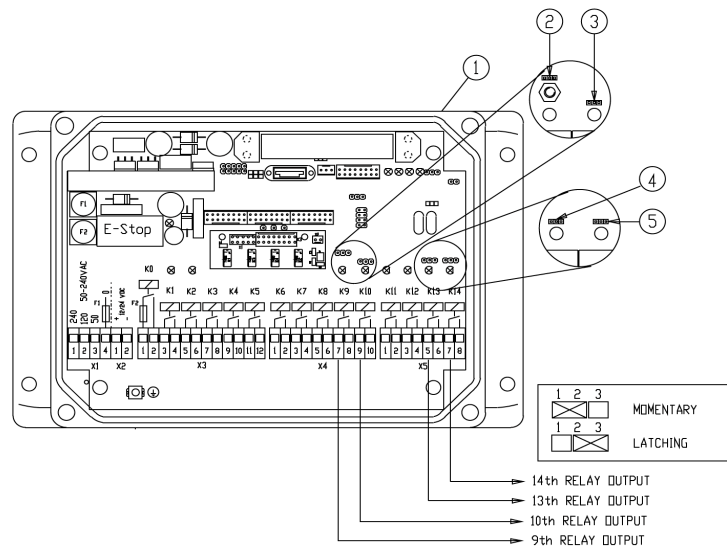

Figure 2.20: Changing the Latching Function
2. Reference Figure 2.20: Changing the Latching Function to locate the Latching Function Jumper Blocks inside the receiver. For momentary control, place the jumper on pins 1 and 2 (factory setting). For latching control place the jumper on pins 2 and 3.